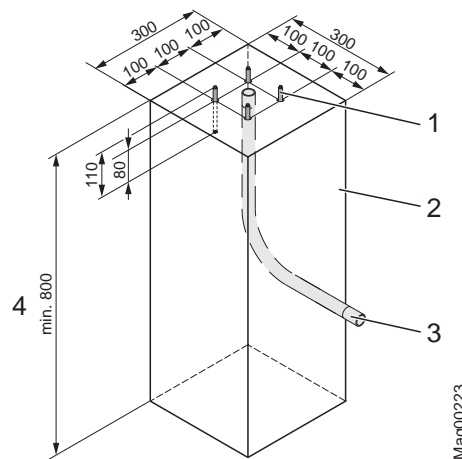

Fig. 17: Foundation plan for nesting post and light barrier post
→ See page 44, Fig. 11 and page 51, Fig. 17.
1. Dig foundation hole pursuant to Fig. 11 and Fig. 17.
2. Place empty conduit pursuant to Fig. 17 in the foundation hole.
4. Fill concrete foundation pursuant to Fig. 17.